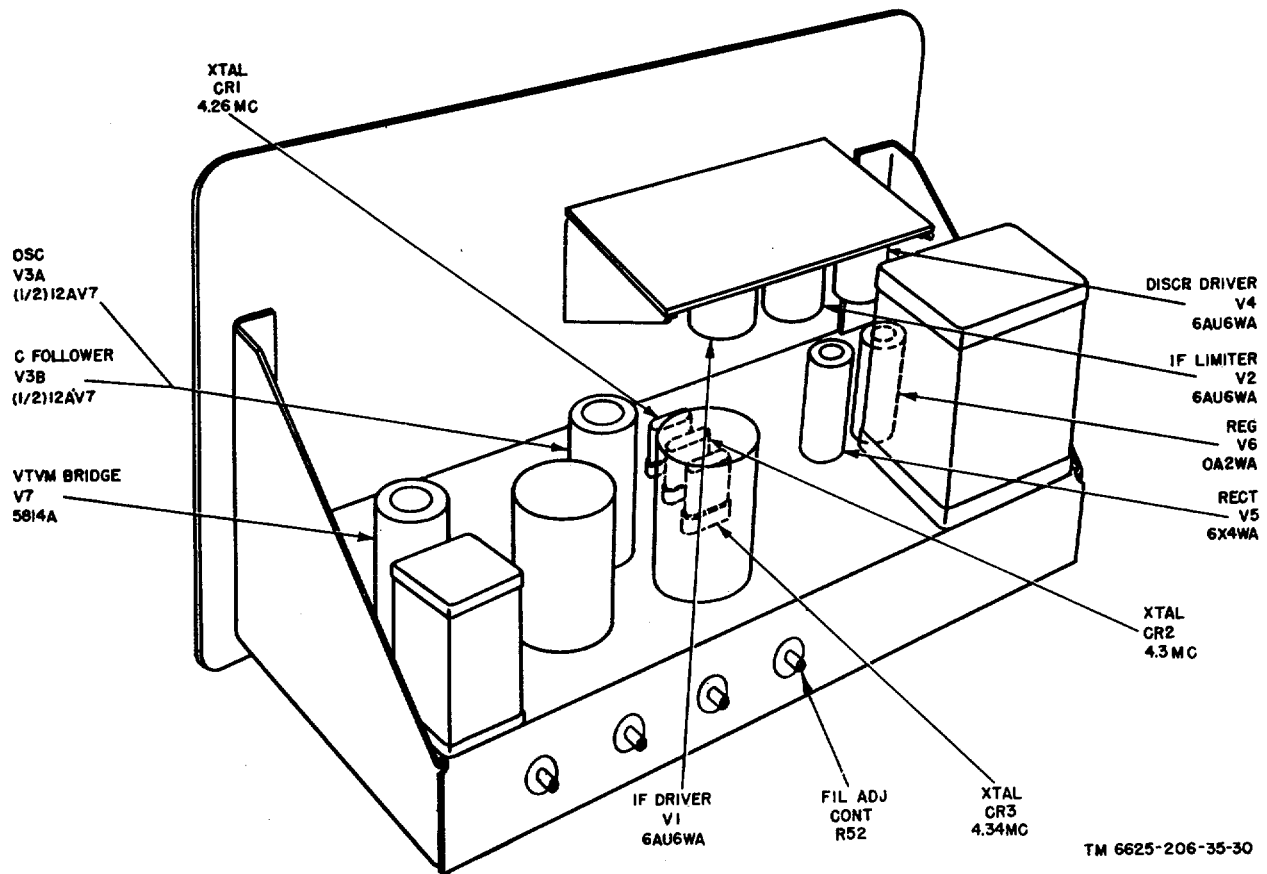
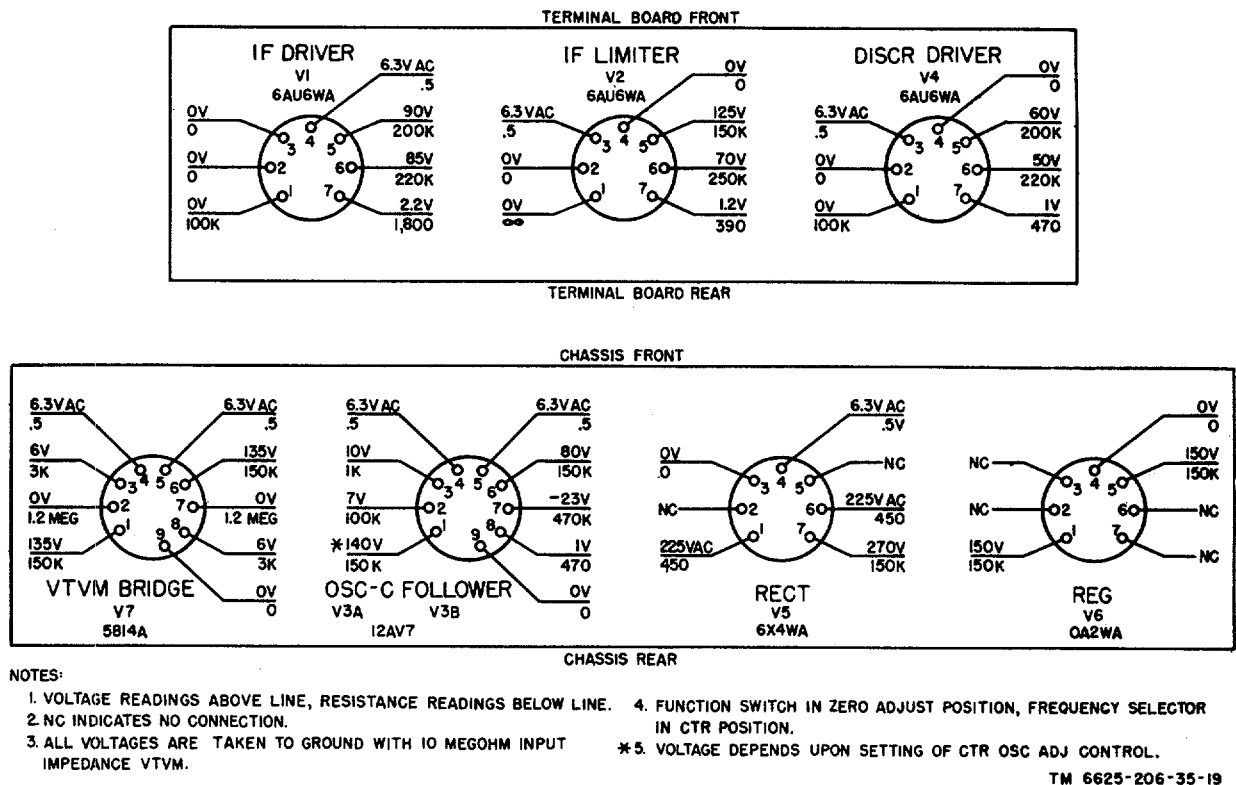

Figure 17. Tube and crystal location diagram.
Figure 18. Voltage and resistance data.
- (1) *Voltage and resistance measurements.* These measurements will help locate the individual component part at fault. Use resistor and capacitor color codes (figs. 24 and 25) to find the value of the components. Use the voltage and resistance diagram (fig. 18) to find normal readings, and compare them with readings taken.
- (2) *Troubleshooting chart.* The trouble symptoms listed in the troubleshooting chart (para. 21*d*) will aid in localizing trouble to a component part.
- (3) *Intermittent troubles.* In all these tests, the possibility of intermittent troubles should not be overlooked. If present, this type of trouble often may be made to appear by tapping or jarring the equipment. Check the wiring and connections to component parts of the set.
a. *General.* In the troubleshooting chart (*d* below), procedures are outlined for localizing troubles to a stage within the unit. Use this chart before going through extensive troubleshooting procedures. Parts locations are indicated in figures 19 through 21. When trouble has been localized to a particular stage, use voltage and resistance measurements (fig. 18) to isolate the trouble to a particular part.
b. *Use of Chart.* The troubleshooting chart is designed to supplement the operational checks detailed in TM 11-6625-206-12. If no operational symptoms are known, begin with item 1 of the operational checklist (TM 11-6625-20612) and proceed until a symptom of trouble appears.
Defective IF driver stage V1.	Check V1 (fig. 17) and replace if defective. Compare the voltage and resistance values measured between the socket of V1 and ground with values shown in figure 18. Localize defective component (para. 18).
Defective IF limiter stage V2.	Check V2 (fig. 17) and replace if defective. Compare the voltage and resistance values measured between the socket of V2 and ground with values shown in figure 18. Check associated circuit components. Note. A signal is applied to IF limiter stage V2 only if an AM-427/U or test plug is inserted into socket X2.
b. Take voltage measurements at the tube sockets (figs. 17 and 18).